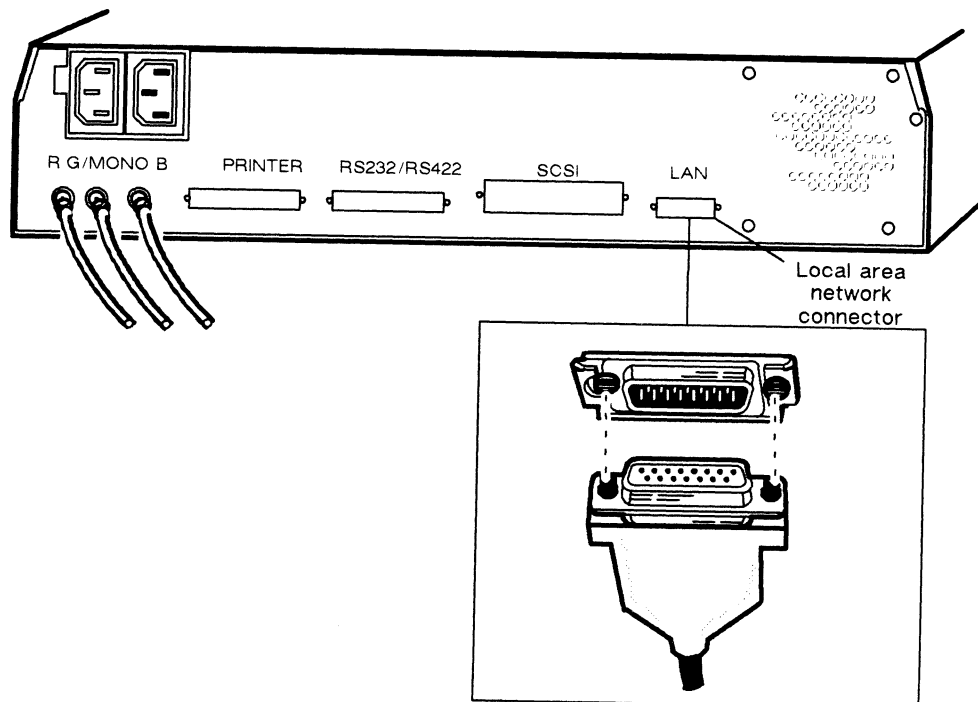

Figure 2-15 Local Area Network Connector on the Back of the Computer Unit
2. Line up the pins in the cable with the holes in the LAN connector shown in Figure 2-15.